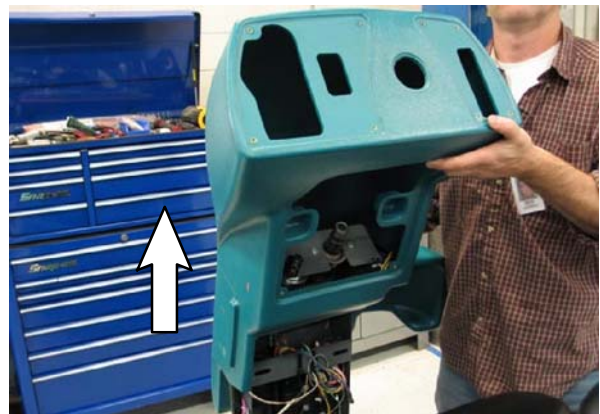

FIG. 10
10. Remove the hardware securing the shroud to the machine and lift the shroud from the machine. (Fig.10)